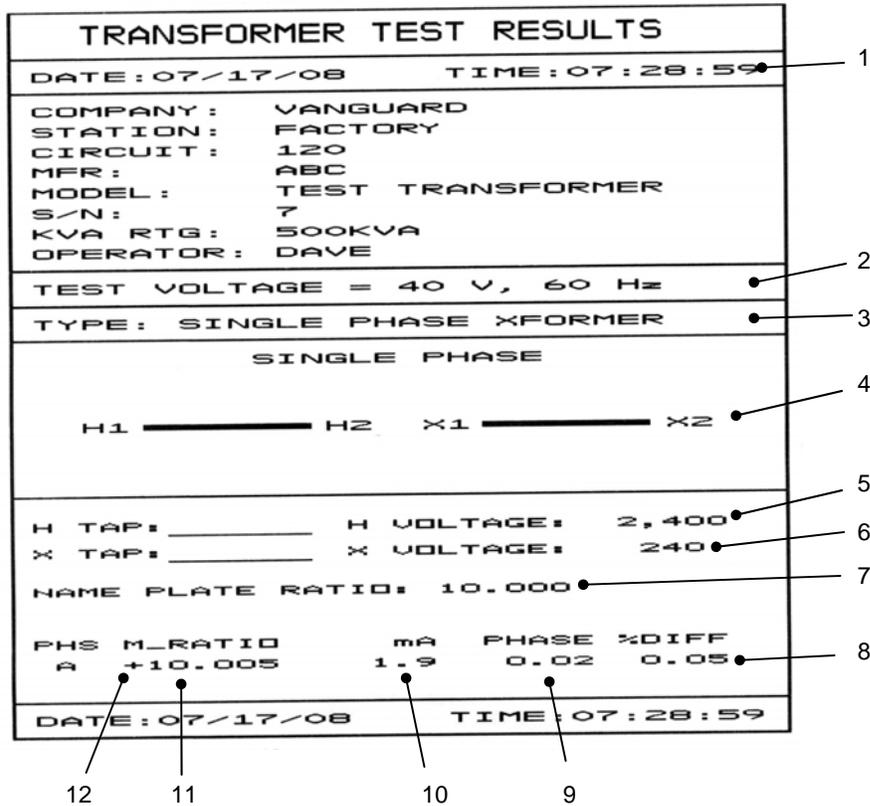

Figure 27.0 Single Phase Column Format Printout
- a. **Description:** Allows the operator to select which format to use for printing the test results. Refer to Figure 27.0 for a typical column format printout. Refer to Figure 28.0 for a detailed format printout.
A typical single-phase transformer test results printout in column format is shown in Figure 27.0.